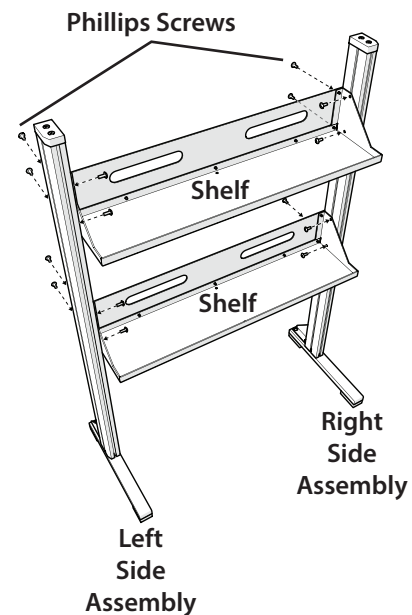

Figure 4: System Organizer with Screw Locations
5. Place the organizer in an upright position and then install the second shelf in the same manner as the first shelf (Figure 4).